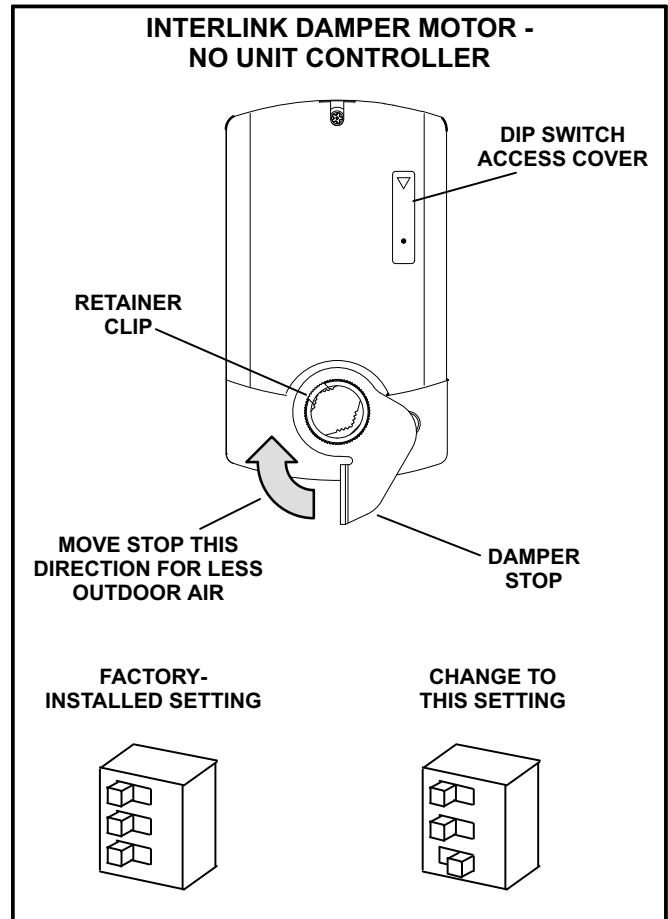

FIGURE 2
- 4- Units NOT equipped with an A55 Unit Controller - Open the DIP switch access cover on the damper motor and adjust the setting. See figure 2.
- 1- To reduce the outdoor air percentage, remove retainer clip and adjust damper stop in the clockwise direction. Replace the retainer clip securing the stop arm in the new position. See figure 2.